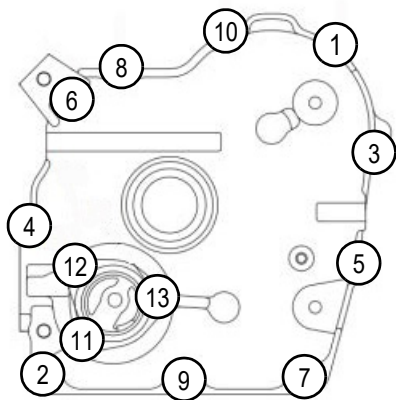

Figure 4-2: Torque Sequence
3. See Figure 4-2. When installing bolts or nuts, begin with the larger-diameter inner bolt first and tighten to the specified torque in the specified torque sequence.